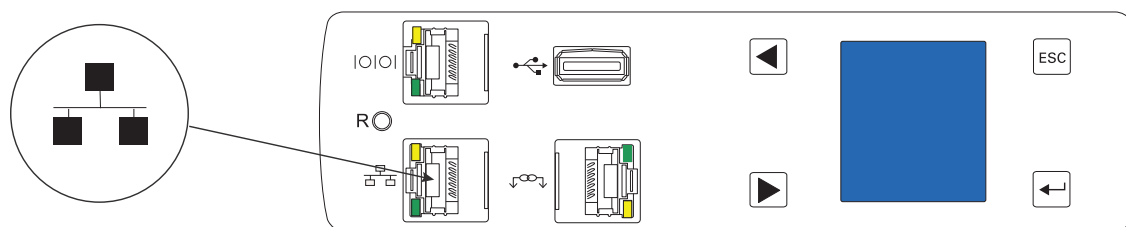

Figure 19. Connecting the PDU to a LAN
2. Connect one end of the cable to the Ethernet connector on the PDU (see Figure 19). Connect the other end of the cable to the Ethernet connector on the router (or other LAN device).